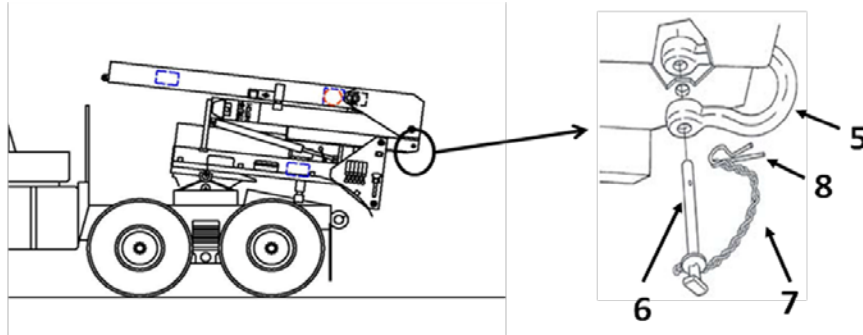

Figure 4- Safety clevis and pin
- Remove two clevises (5), two clevis pins (6), and safety chains with spring clips (7) from mast section (8). (figure 4)